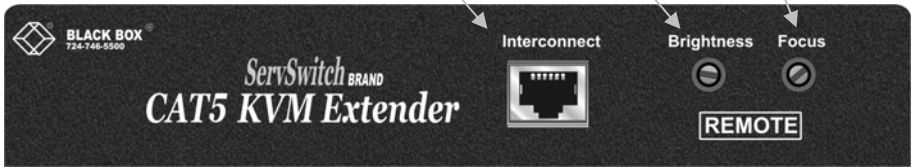

Figure 5 Remote Unit - front view
3. Connect the CATx cable to the INTERCONNECT socket on the front of the Remote Unit as shown in Figure 5.